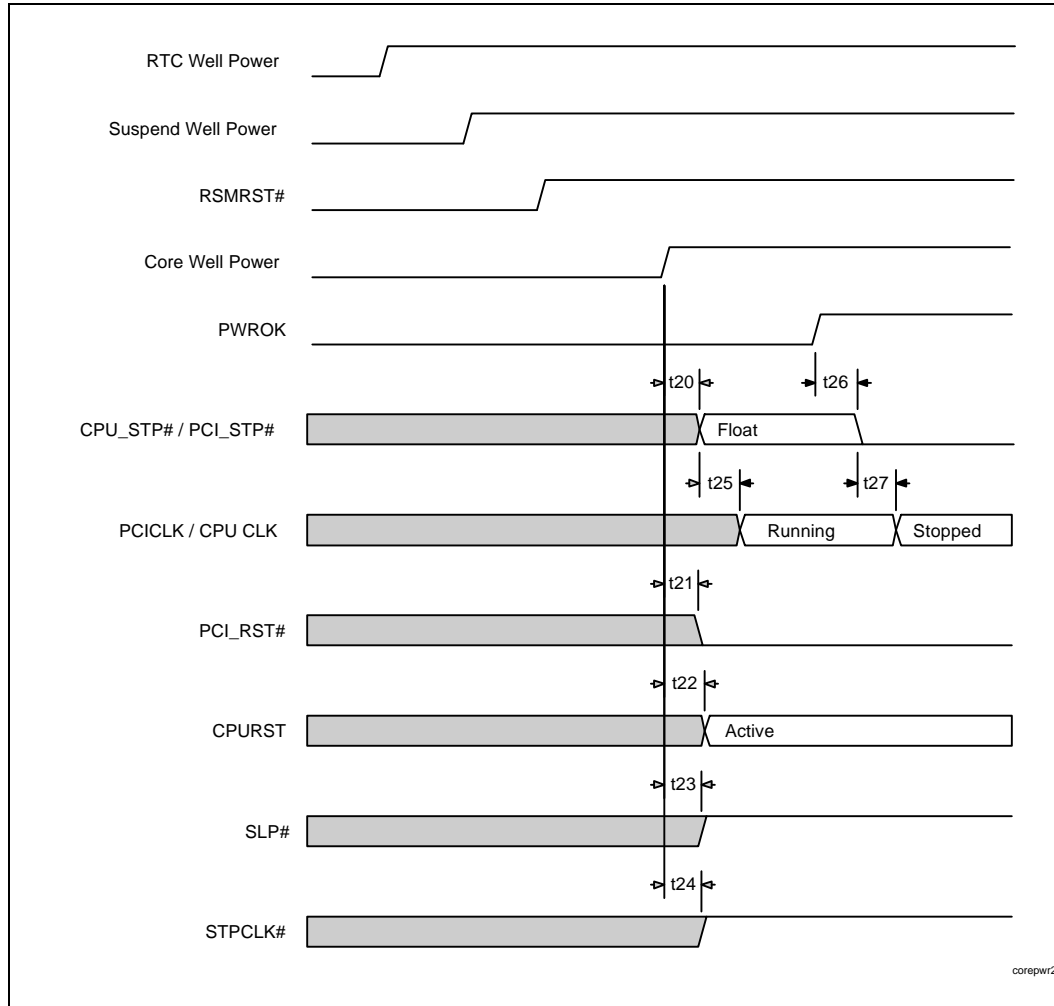
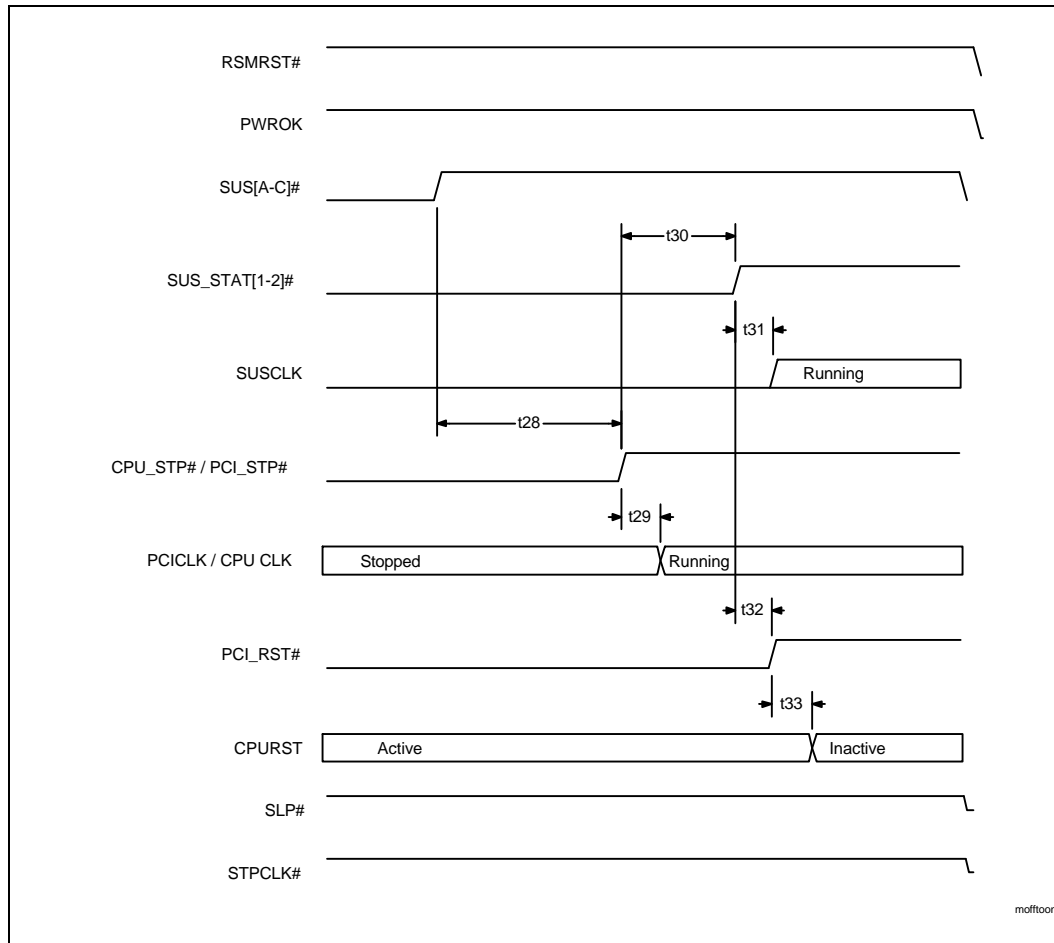

Figure 21. Core Well Power and PWROK Activated Signals (RSMRST# Inactive Before Core Well Power Applied)
Figure 22. Mechanical Off to On
2. There are no specific requirements for these timings related to PIIX4. The system manufacturer should make sure that the clocks on power up meet any other system specifications. As a minimum, the clocks must be available and stable after time t30 shown in Figure 22.
Figure 21 shows the timing relations for Power Management signals powered from the PIIX4 Main Core well. Here the Suspend well power active status signals (RSMRST#) transition before the application of Core well power to PIIX4.
Figure 22 shows the transition from a Mechanical Off condition to the On condition. The signal states begin at the final states shown in Figure 20 and Figure 21.